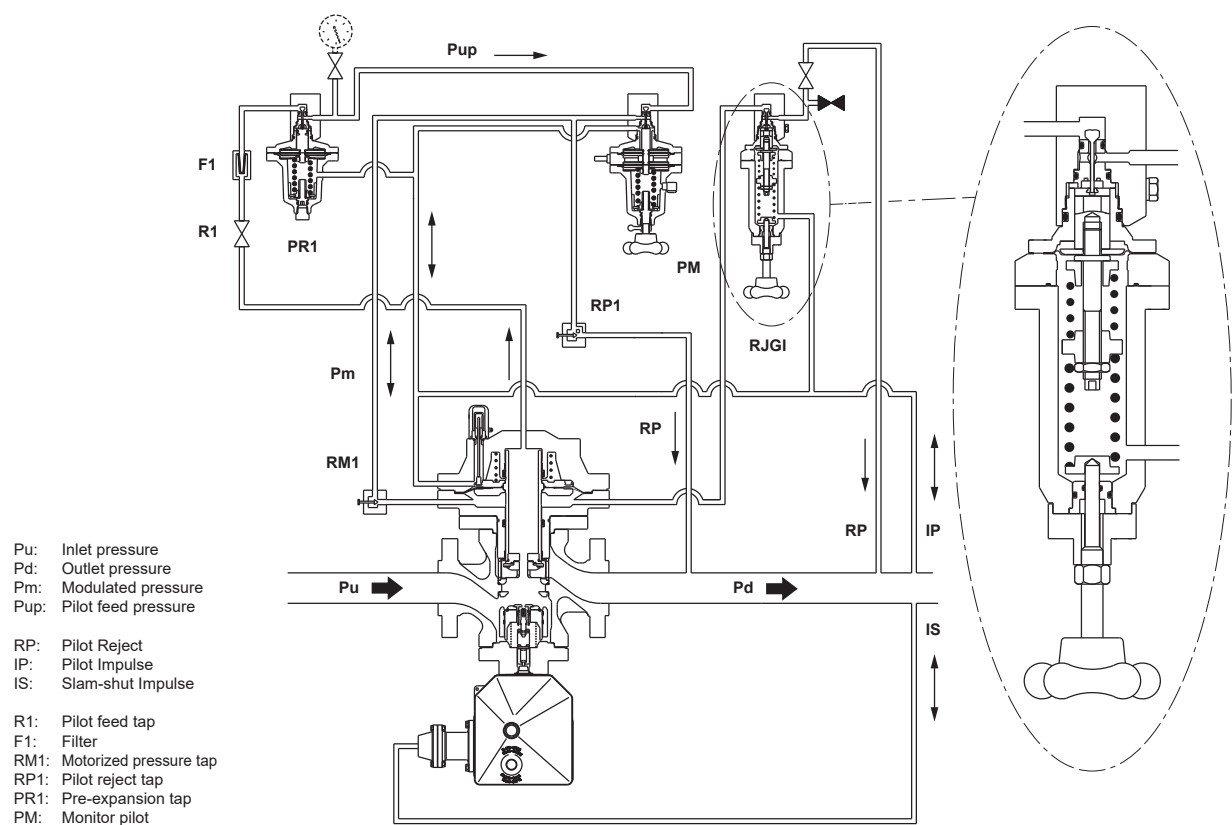

Figure 2. Principle of Operation - Type EZH OS2 Regulator, DN 25-50-80 with 114DA, 114MD and RJGI
RJGI (Accelerator) Figure 2
- Hard trim (Figures 2, 5, 6, 7, 8)